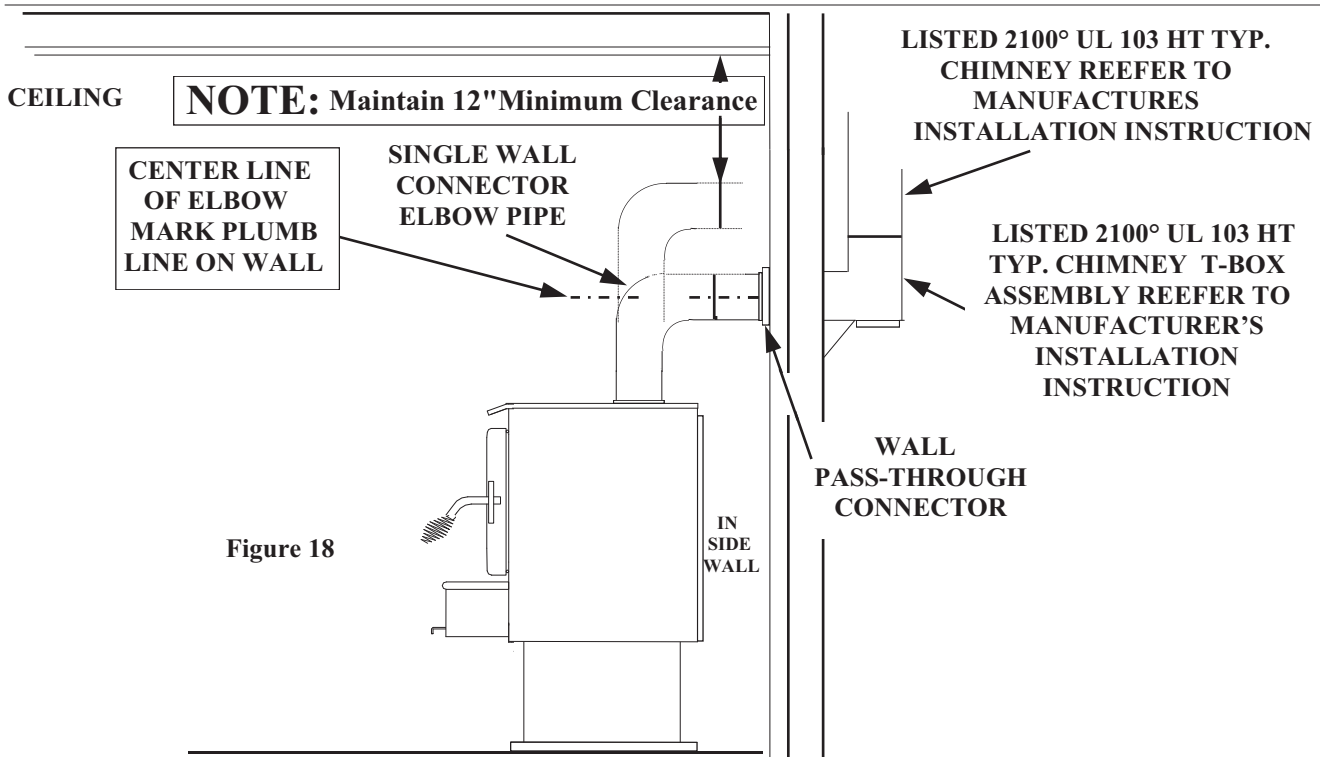

Figure 18
(See Page 20, Figure 18).
3. Measure up so there will be at least 1/4" rise per foot of horizontal connector pipe, maintaining clearances to ceiling as noted in (Page 20, Figure 18). This will give you center of hole for the chimney penetration.
5. Connect chimney collar to tee-box using 6" Single Wall minimum 24ga. blued or black pipe. (DO NOT USE GALVANIZED PIPE). Connect each section so crimped end faces downward and secure each section to each other using three (3) sheet metal screws or rivets. Single wall pipe is to be connected with three (3) sheet metal screws rivets to connector collar on heater. (See Page 20, Figure 18).